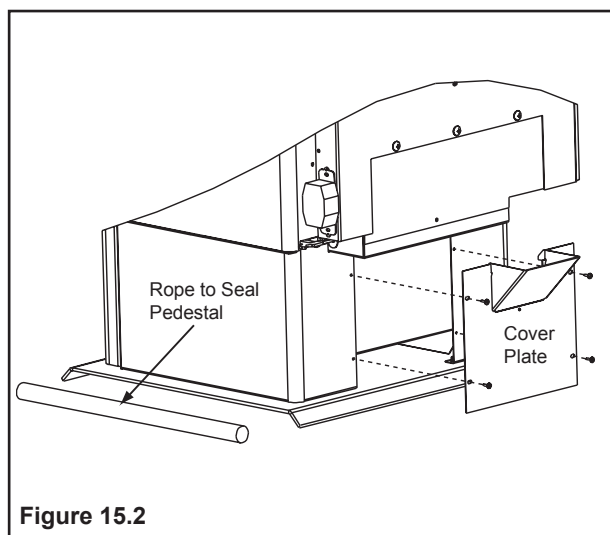

Figure 15.2
Included in SRV7033-041: Cover plate and sealing rope (see Floor Installation Alternative below, **Figure 15.2**)
15.1. If that is the case, you will need to order SRV7033-041 which includes a cover plate and sealing rope as shown in **Figure 15.2**. The goal is to seal the pedestal so no room air can leak into the pedestal or for cold air infiltration.